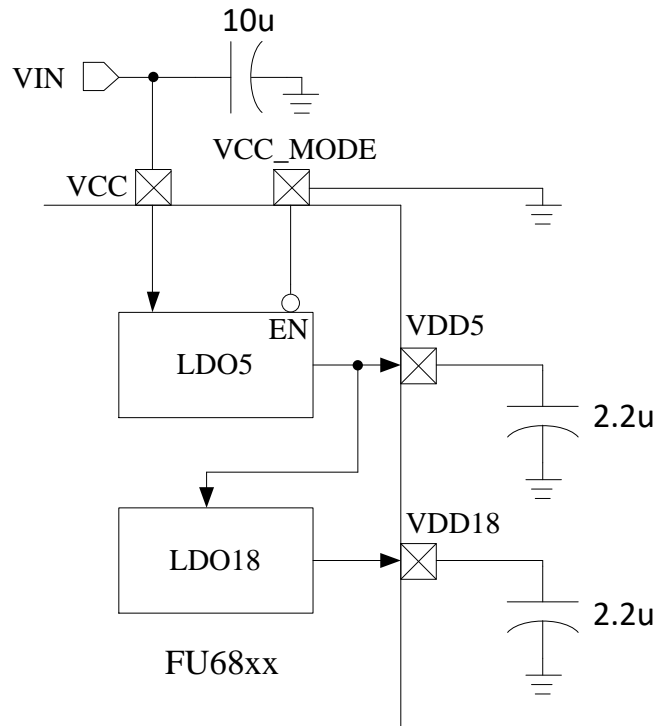

Figure 31-2 High-voltage Single-power Supply Mode
- High-voltage Single-power Supply Mode: VCC_MODE = 0 and VCC = 5 ~ 24V. See Figure 31-2 for details.
- High-voltage Single-power Supply Mode: VCC = 12 ~ 20V. See Figure 31-2 for details.